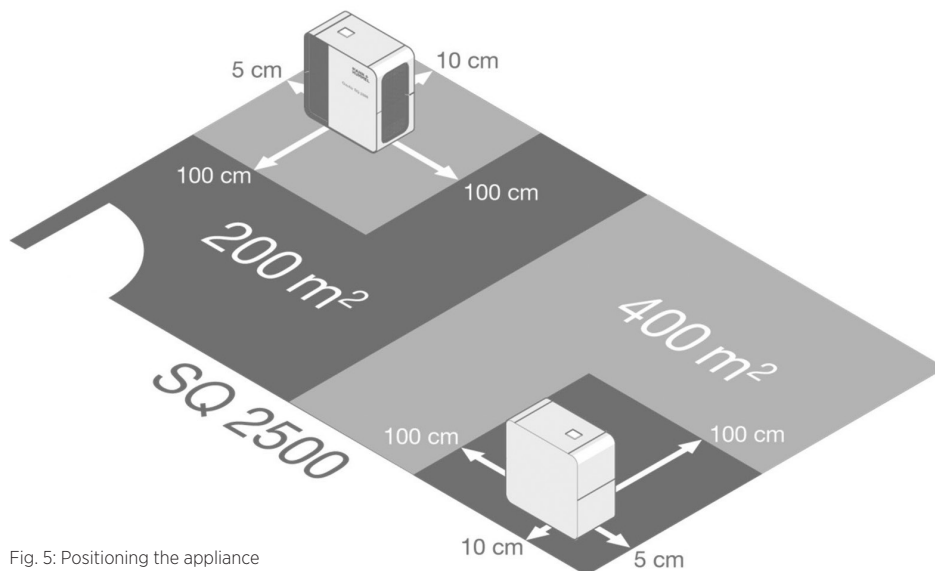

Fig. 5: Positioning the appliance
- Observe the optimal distance to walls and objects according to the information in Fig. 5.